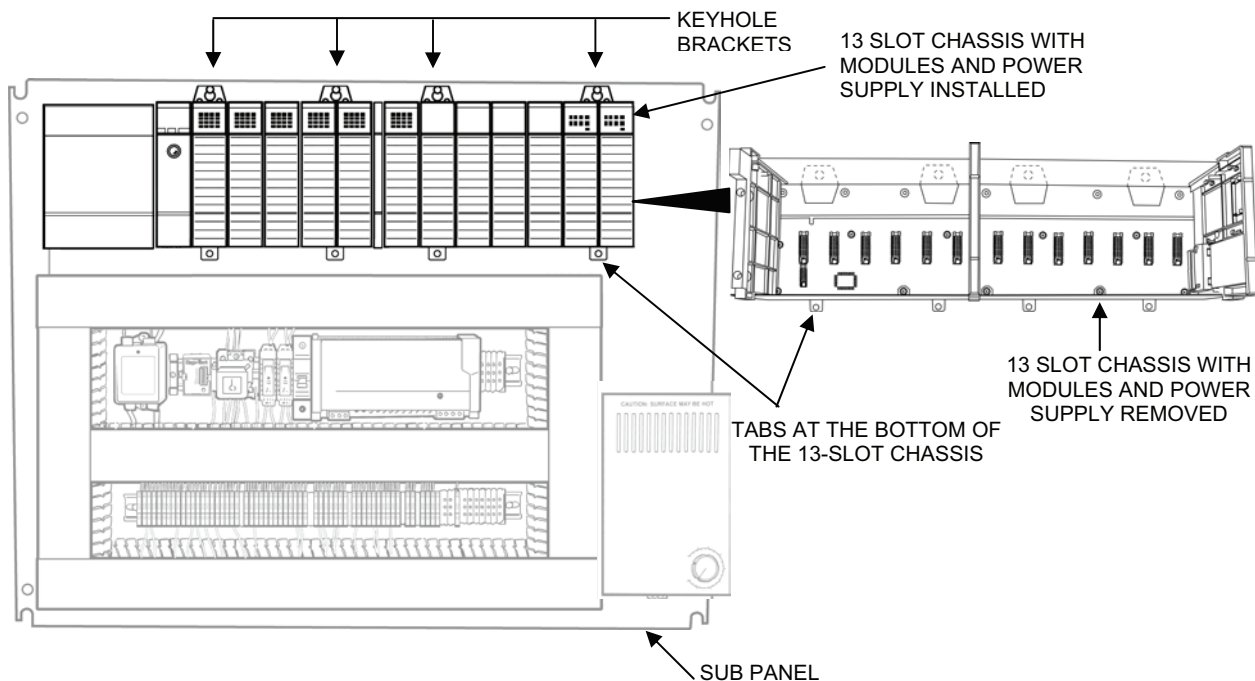

Figure 9. 13-Slot Chassis Replacement.
3. Remove the 13-slot chassis as follows (see Figure 9):